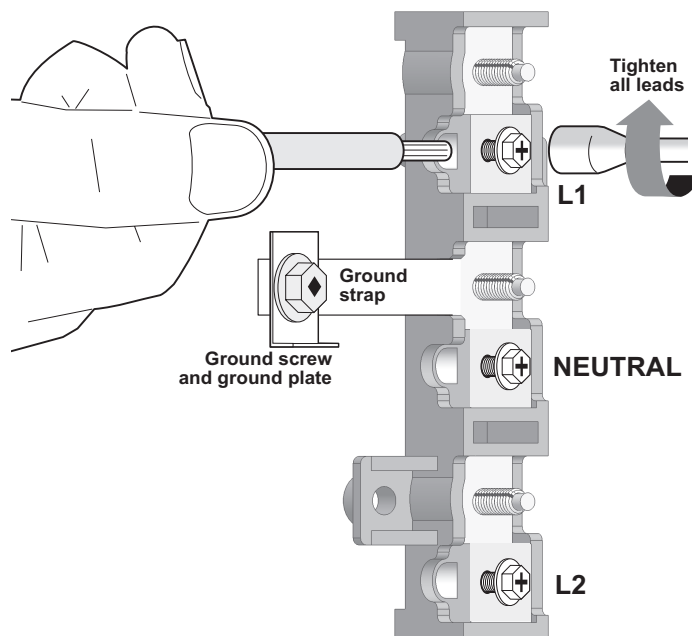

Fig. 16
1. Strip insulation away from the ends of the permanent wiring for Line 1, Line 2, Neutral (also strip ground wire on 4-Wire Connections). Tighten all wire leads to the terminal block (Follow wire locations shown in Fig. 16). **IMPORTANT NOTE: DO NOT LOOSEN** the factory installed nut connections which secure the range wiring to the terminal block. Electrical failure or loss of electrical connection may occur if these nuts are loosened or removed.